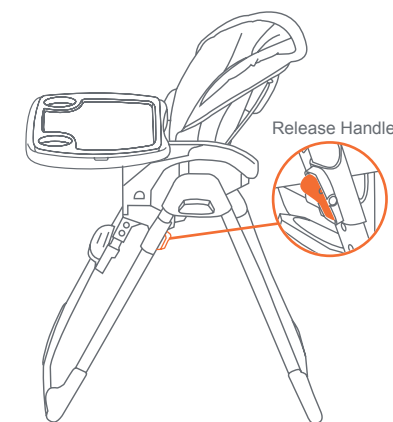
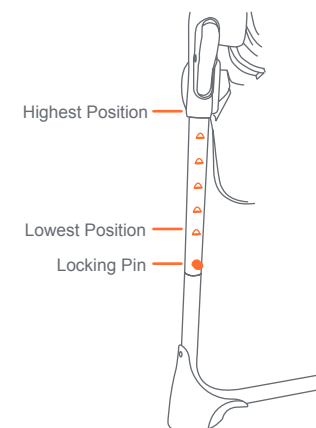

Fig. 13a
Fig. 13b
13) • Squeeze the Release Handles on both sides simultaneously of the Height Adjustment bracket (Fig. 13a) and adjust to the ideal position (Fig. 13b). **DO NOT** adjust with child in the seat.